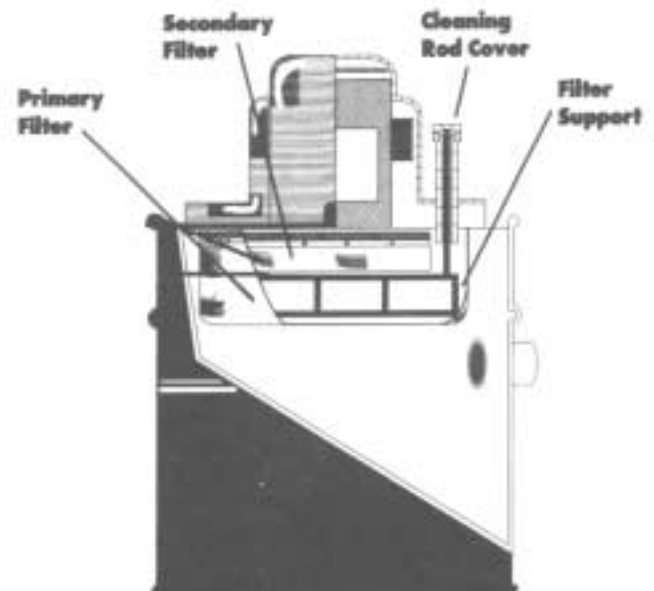

Fig. 2
**STEP TWO:** Take the rod of the filter support basket and slide it through the small hole in the lid. The filter support basket should be between the primary and secondary filters. Take the larger, primary filter **with the stamped side IN**, and place it over the filter support basket (part #9p23) and fasten it securely with the 10" clamp to the base of the lid. **NOTE:** The primary filter's bottom seam and the filter support basket should line up and cross the center of the lid. Where the filter attaches to the lid, there should be a minimal amount of wrinkles. The filter and lid should look like Fig. 2 when completed. **(NOTE: ALWAYS CHECK FILTER BEFORE EACH USE TO ENSURE THAT IT FITS SNUGLY IN PLACE AND IS IN GOOD CONDITION.)**
The primary and secondary filters may be cleaned without removing the lid. Agitation of the filter support basket, located between the primary and secondary filters allows both filters to be cleaned without removing the lid. (Fig. 2)